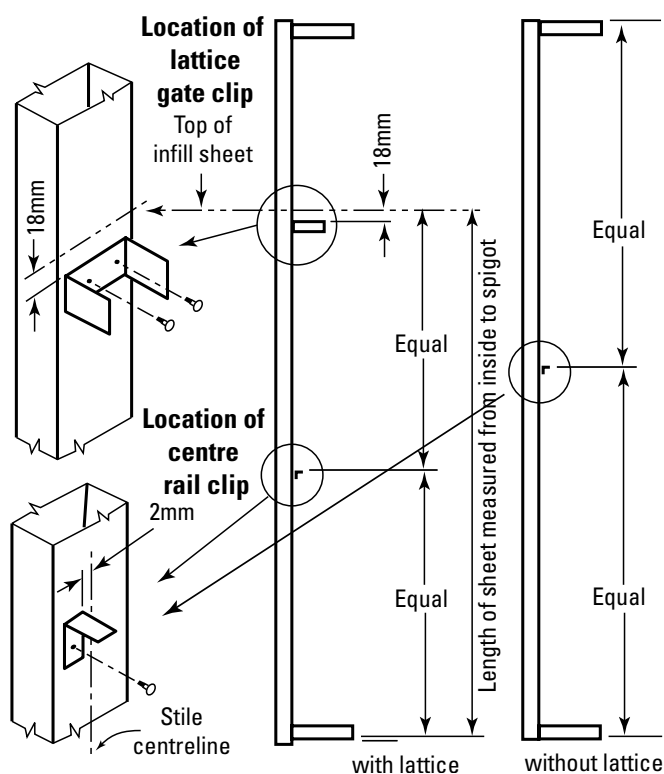

Figure 23.3
- 3) Using tin snips, notch the four corners. The top and bottom notches are different. (Figure 23.3).
3. If your gate includes a 'Plus Option' (lattice or slats), mark the position of the two lattice gate clips. Fasten the clips to the stiles using two hex. head screws #10–16x16 for each (Figure 23.3).
4. Mark the position of the two centre rail clips, with the inner edge of the clip 2mm from the centreline of the stile, and fasten them to the stiles using a hex. head screw #10–16 x 16 for each (Figure 23.3).